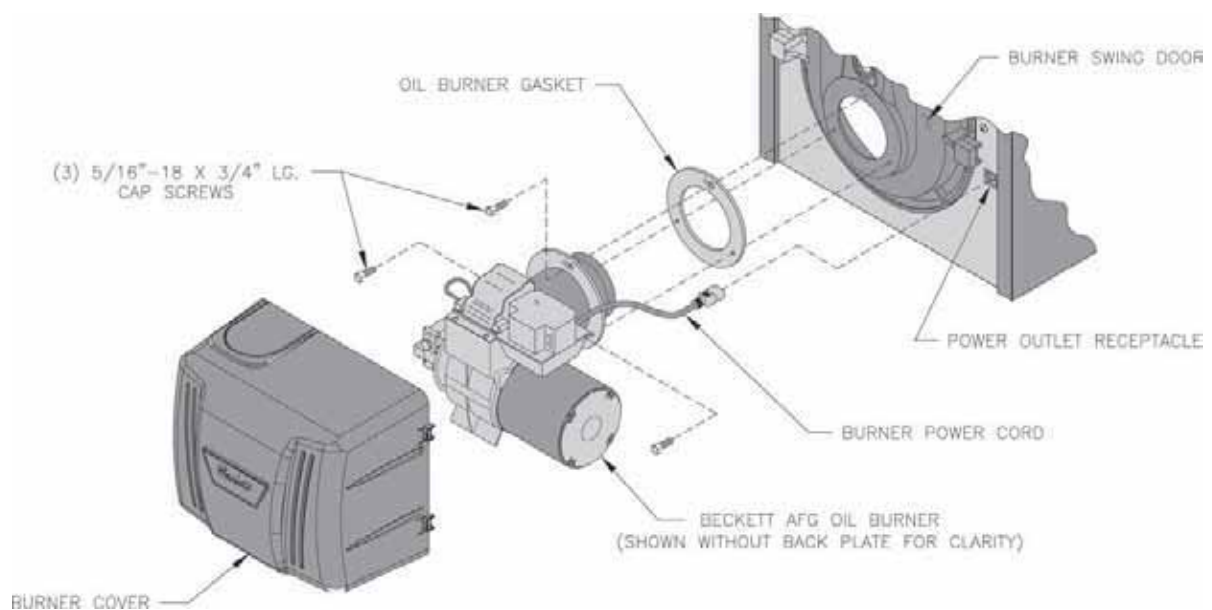

Figure 12: Beckett Oil Burner Installation
- Install Beckett oil burner. (See Figure 12)